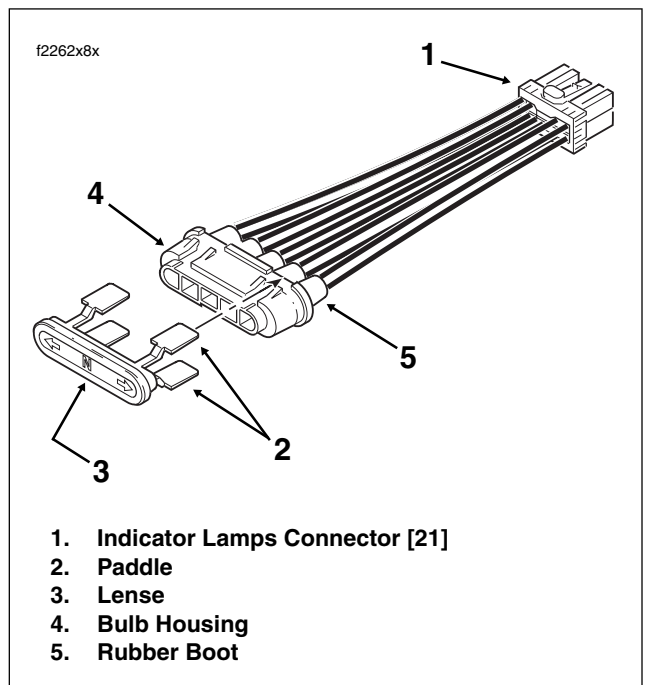

Figure 8-120. Indicator Lamp Assembly
4. Release four paddles to free indicator bulb housing from lense assembly. See Figure 8-120. Remove lense assembly from inner fairing (FLHX, FLHT/C/U) or bezel (FLTR), if damaged.